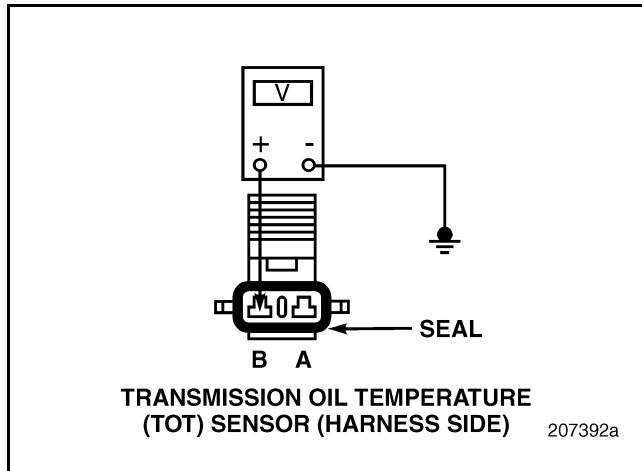

Figure 232
5. Measure the voltage between Transmission Oil Temperature (TOT) Sensor harness connector pin B and a good ground (see Figure 232).